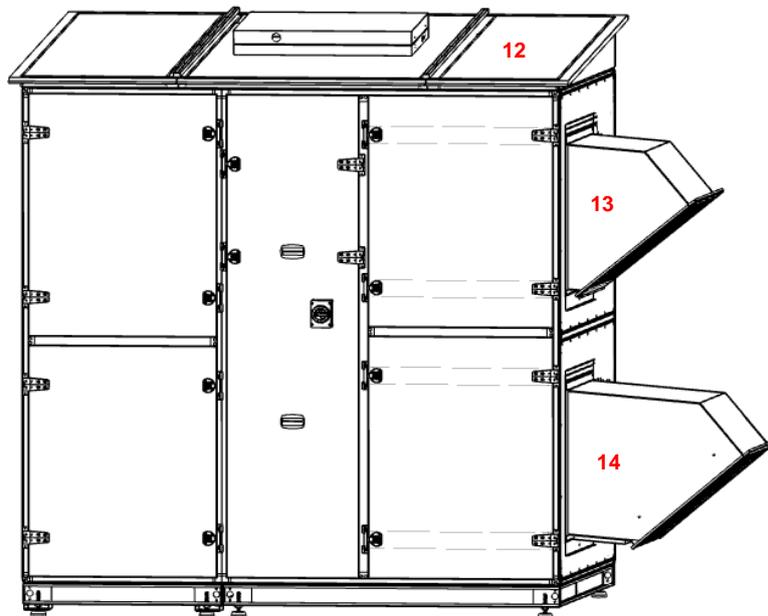

Fig. 23
- Outer view including weather roof and outdoor spigots (Fig. 23)